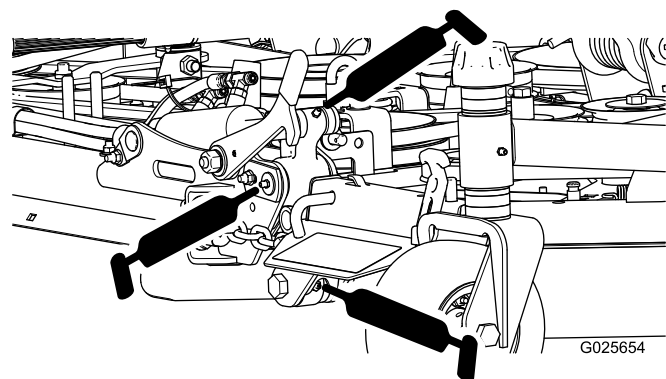

Figure 20
- Wing deck hinges (10) (Figure 20)